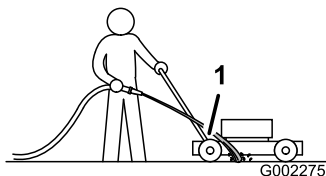

Figure 29
3. Hold the running garden hose at handle level and direct the water to flow on the ground just in front of the right rear tire (Figure 29).